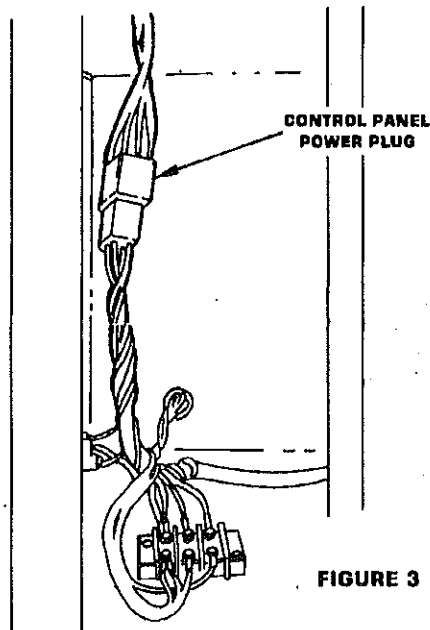

FIGURE 3
5. Dis-connect the Control Panel Power Plug (Figure 3).